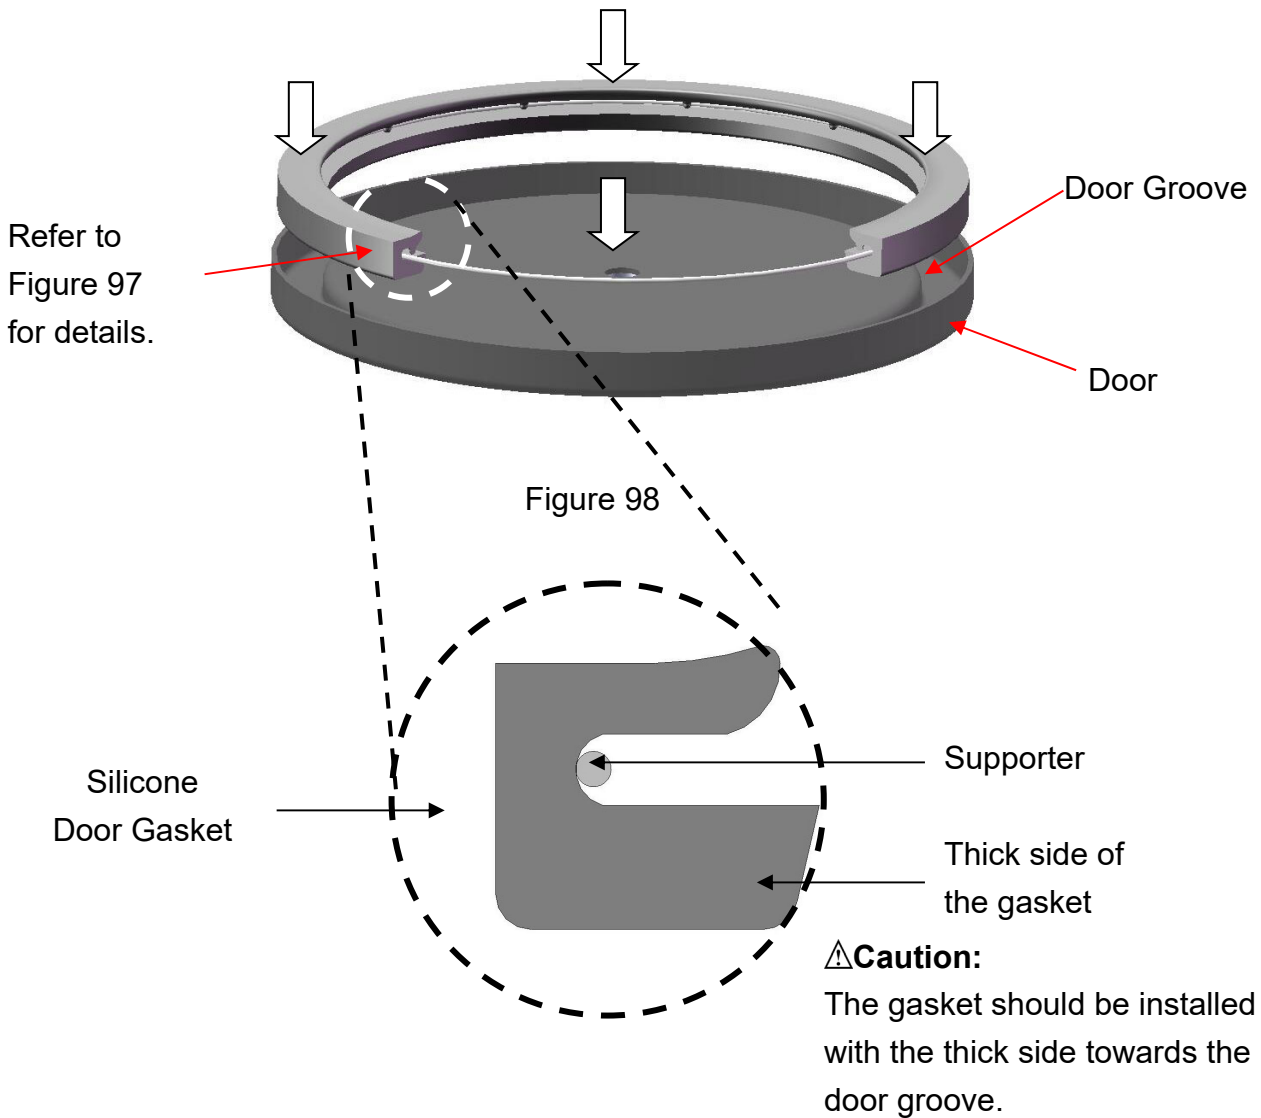

Figure 99
4. Figure 99 for the correct direction.